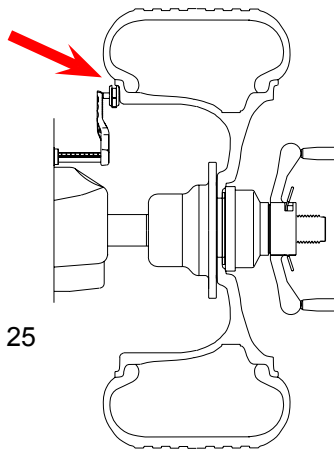

Figure 25
**4.5.3.1 Manual Distance Entry** - Move the distance gauge arm to touch the inner edge of the wheel where weights are to be placed and observe the reading on the scale of the distance gauge. See Figure 25. Press manual Wheel **Offset** button (O) followed by selecting the +/- keys until value is displayed in the display window.